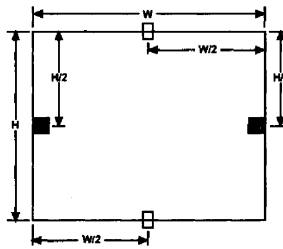

Fig. 2-7
- (1) The same as item 2.6. (1)~(7)
- (2) The raster inclination adjustment should have been completed.
- (3) Horizontal AFC adjustment should have been completed.
- (4) Apply marking using the tape, etc. at the positions on the screen as shown in Fig. 2-7.